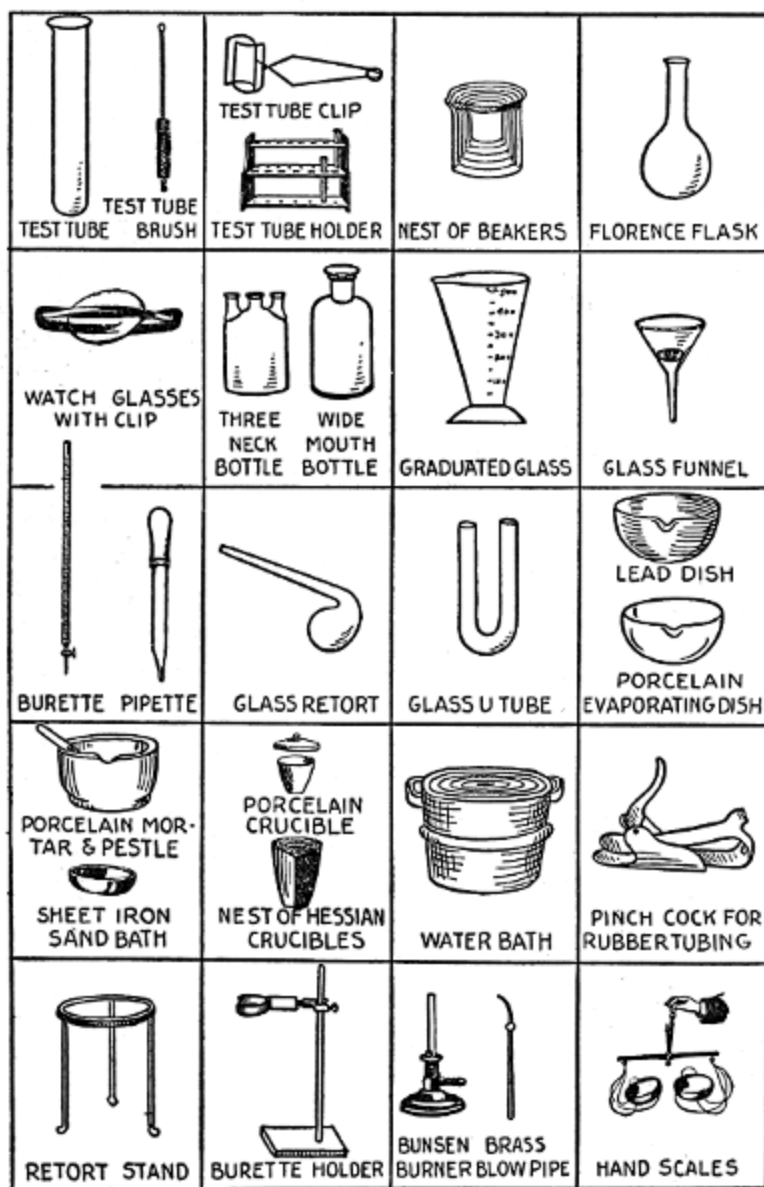

FIG. 62. SOME USEFUL CHEMICAL APPARATUS
nest of porcelain crucibles; (9) an evaporating dish; (10) a lead dish; (11) a couple of glass funnels; (12) a glass bottle with a two hole stopper; (13) half a pound of glass tubing; (14) a porcelain mortar and pestle; (15) a plain glass retort; (16) a stoppered retort; (17) 3 or 4 feet of $\frac{1}{4}$ inch rubber tubing; (18) a sand bath; (19) a dozen test tubes; (20) a test-tube stand; (21) a test-tube clamp; (22) a test-tube brush; (23) an iron retort tripod; (24) one-half dozen watch glasses; (25) a water bath; (26) some wire clamp supports; (27) a couple of platinum plates; (28) an air bath; (29) a burette; (30) a pinch-cock, and (31) a brass scale with weights. See Fig. 62.